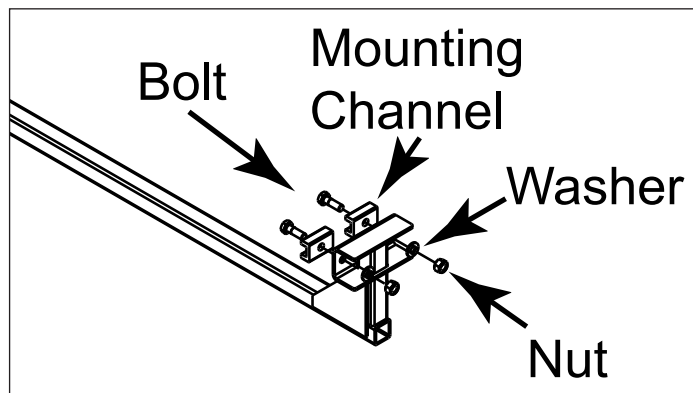

Figure 26: Fixed Webcam Arm Mounting
1. The webcam arm is shipped with all hardware and arm components. Remove the $\frac{5}{8}$ " nuts and washers from the arm assembly before installing the webcam arm. Refer to **Figure 26**.